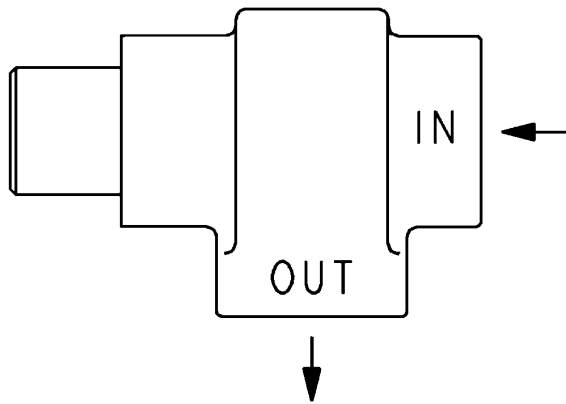

FIGURE 4-3 – MINIMUM PRESSURE/CHECK VALVE
**Minimum Pressure/Check Valve** (FIGURE 4-3) – An internal spring-loaded minimum pressure valve is used in the final discharge line to provide a positive pressure on the oil system even when the air service valve is fully open. The valve senses upstream pressure. If demand for air exceeds the compressor capacity, the valve throttles the flow to maintain a minimum pressure on the upstream (oil reservoir) side of the valve. When pressure rises above the minimum pressure (standard setting 60 to 65 PSIG, 4.1 to 4.5 Bar) the valve reaches the full open position.